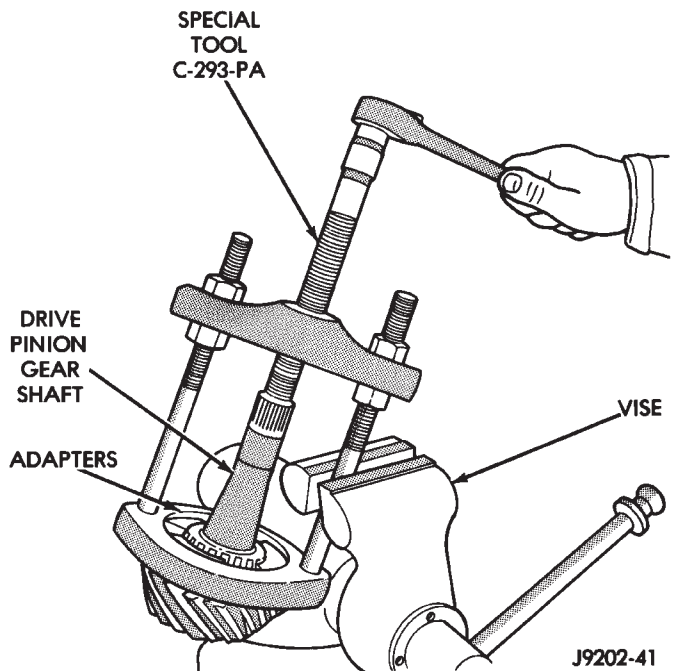

Fig. 42 Inner Bearing Removal
(11) Remove the rear pinion bearing from the pinion with Puller/Press C-293-PA and Adapters C-293-39 (Fig. 42).